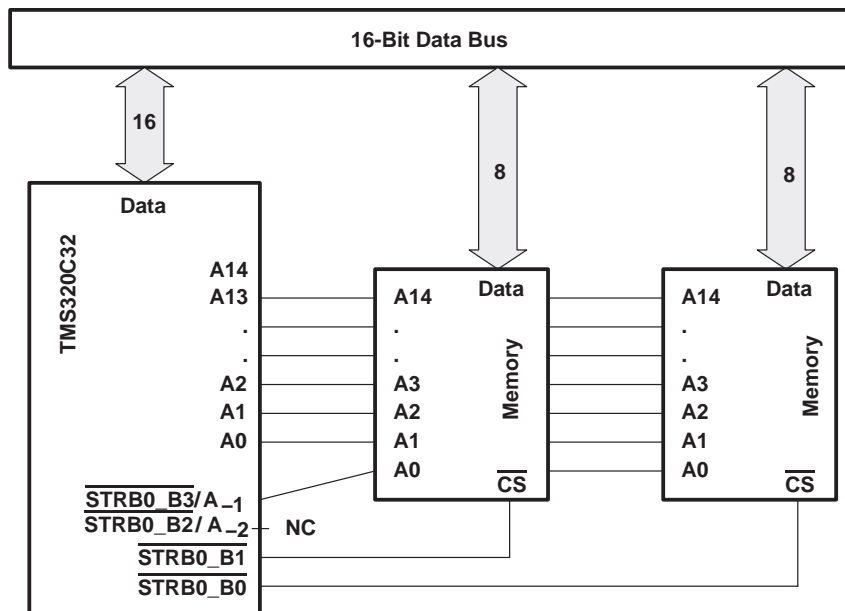

Figure 3. C32 With 16-Bit-Wide External Memory
- For 16-bit-wide physical memory, the $\overline{\text{STRBx_B3/A_1}}$ pin functions as an address pin (least significant address bits). The $\overline{\text{STRBx_B0}}$ and $\overline{\text{STRBx_B1}}$ pins function as byte-enable (chip-select) pins. $\overline{\text{STRBx_B2/A_2}}$ is unused. See Figure 3.